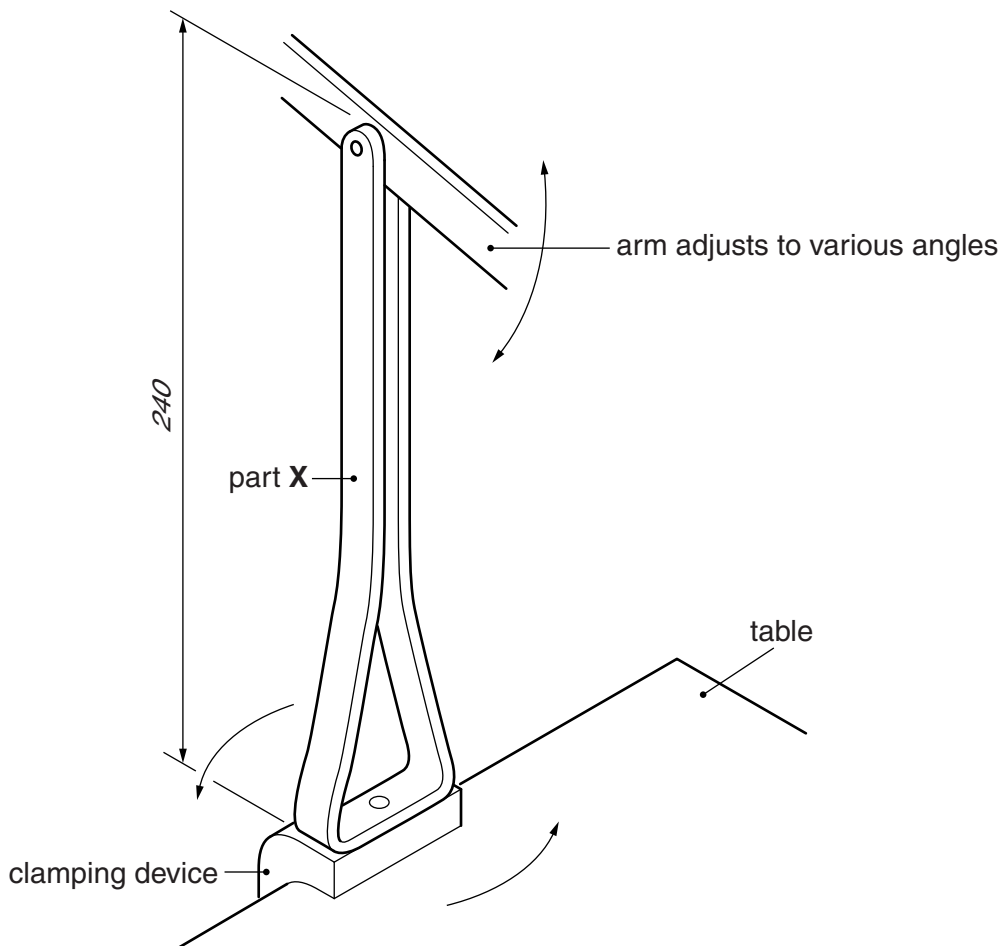

Fig. 7
7 Fig. 7 shows an incomplete idea for an adjustable lamp.
- (c) Using notes and sketches, **develop** a design which allows the lamp to be clamped to a table. The design must include a way of joining the clamping device to part X. Part X must be able to rotate as shown in Fig. 7. [20]